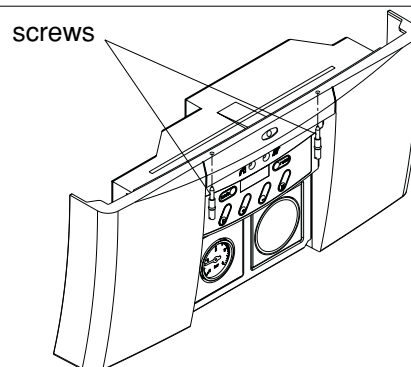

Fig. 13A
- push to release front door panel and lower to reveal controls. Loosen the 2 captive screws securing the front control panel to the lower part of the casing and lower to reveal inside of the boiler (fig. 13A);
- Locate and remove the 2 screws that secure the controls fascia to the appliance casing (fig. 13A)